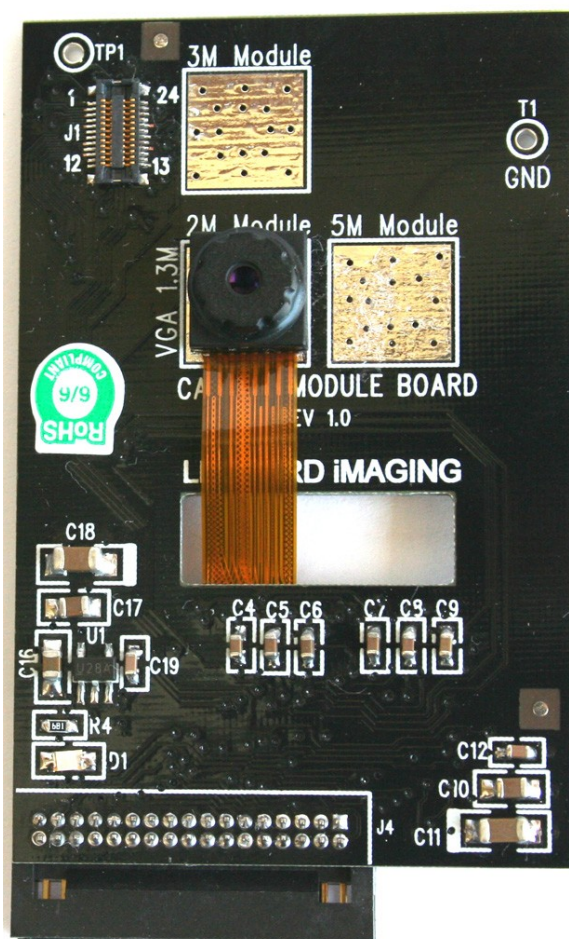

Figure 8. 1.3M Camera Board
1.2.5.2 1.3 Mega-pixel Camera Board, see Figure 8